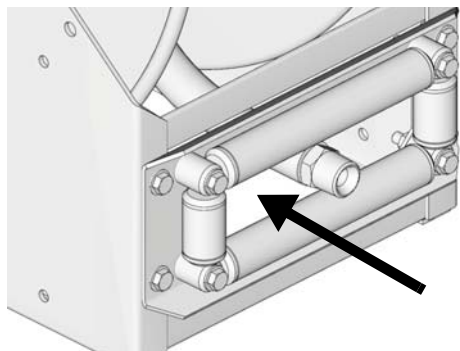

FIG. 79
- Feed the loose end of the hose through the hose rollers and manually wrap and secure the hose onto the reel spool (FIG. 79).